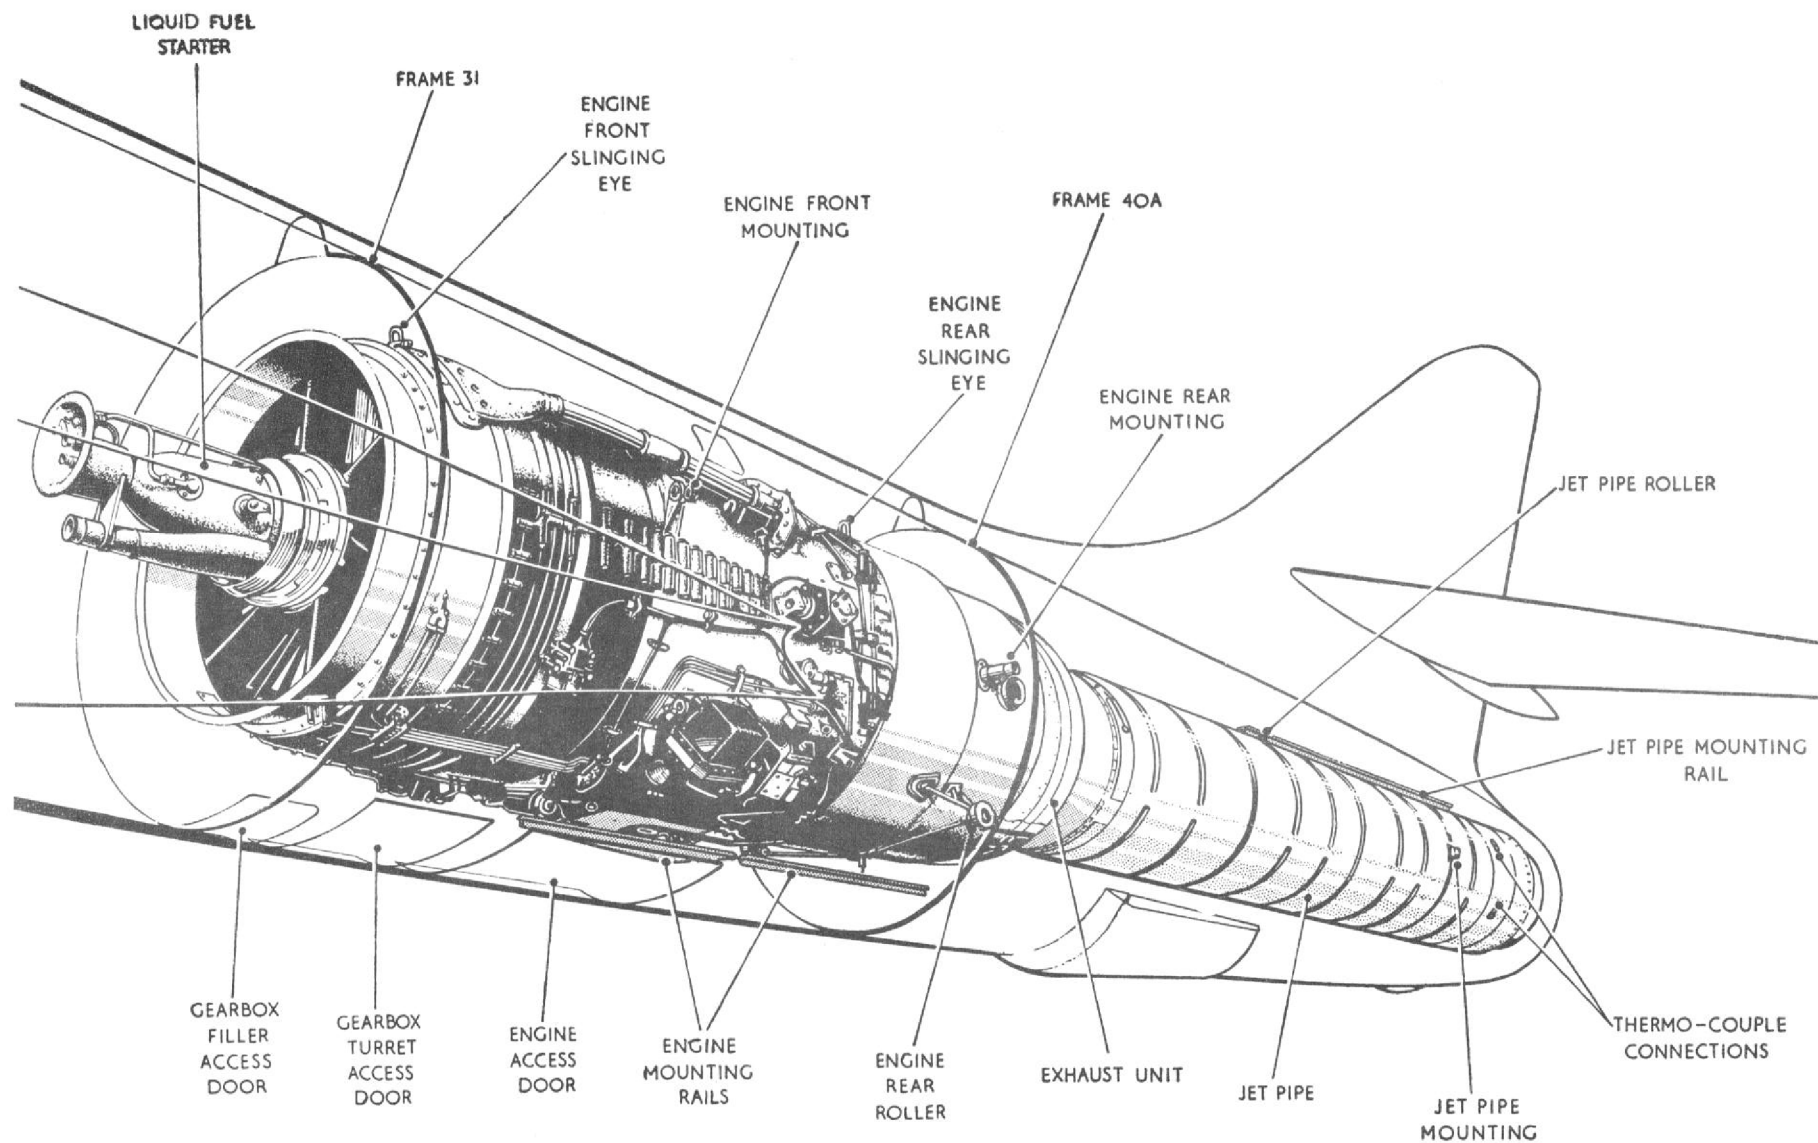

Fig. 1 Engine installation
**Engine mounting (fig. 1)**
**Jet pipe (fig. 1)**